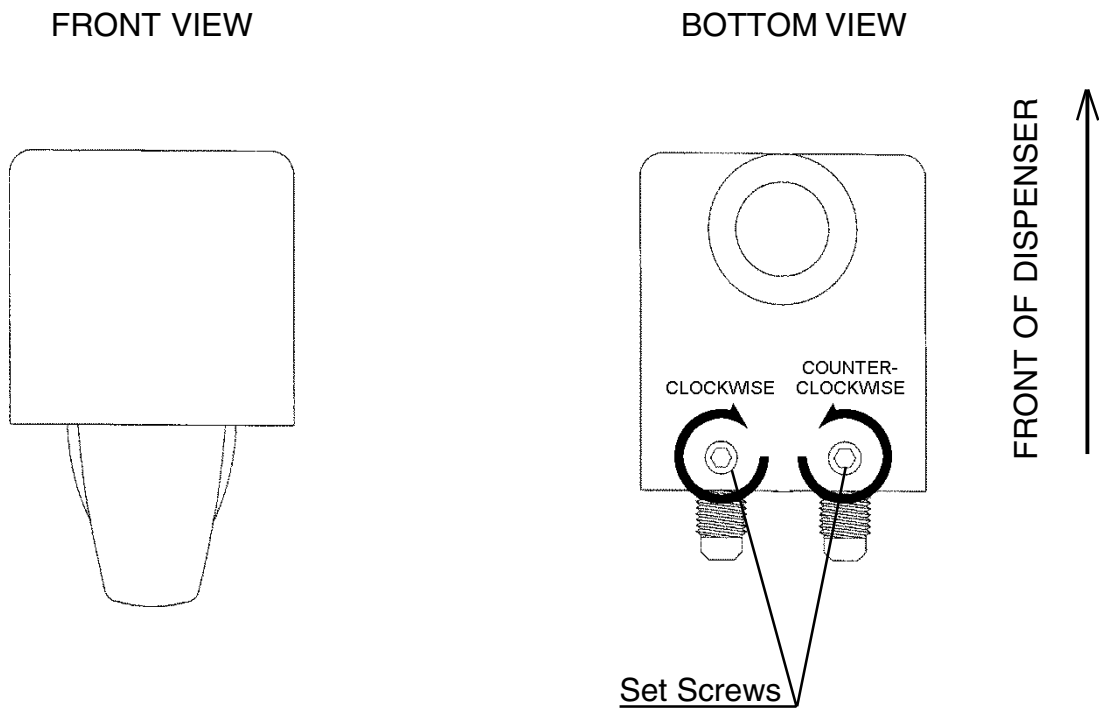

**Fig. 5**
## 7. ADJUSTMENT OF FLOW RATE BRACKET SETTING - See Fig. 5
- 2) Loosen the two (2) thumbscrews while holding the Flow Rate Bracket in place. See Fig. 5.
- 5) Upon making final adjustments, be sure to tighten the two (2) thumbscrews and replace the front panel.